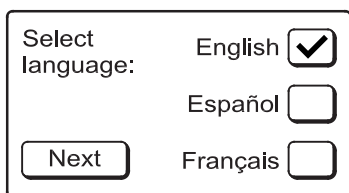

FIG. 15
**1. LANGUAGE:** If the desired language is not checked (See Figure 15), press the button next to the desired language, then press the NEXT button.